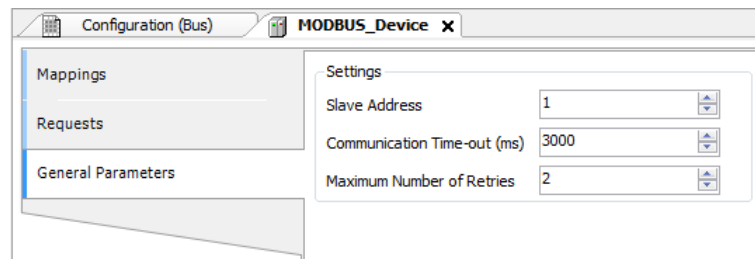

Figure 63: Device General Parameters - Settings
- Add and configure devices via the General Parameters tab, defining the slave address, communication time-out and number of communication retries as can be seen in Figure 63.